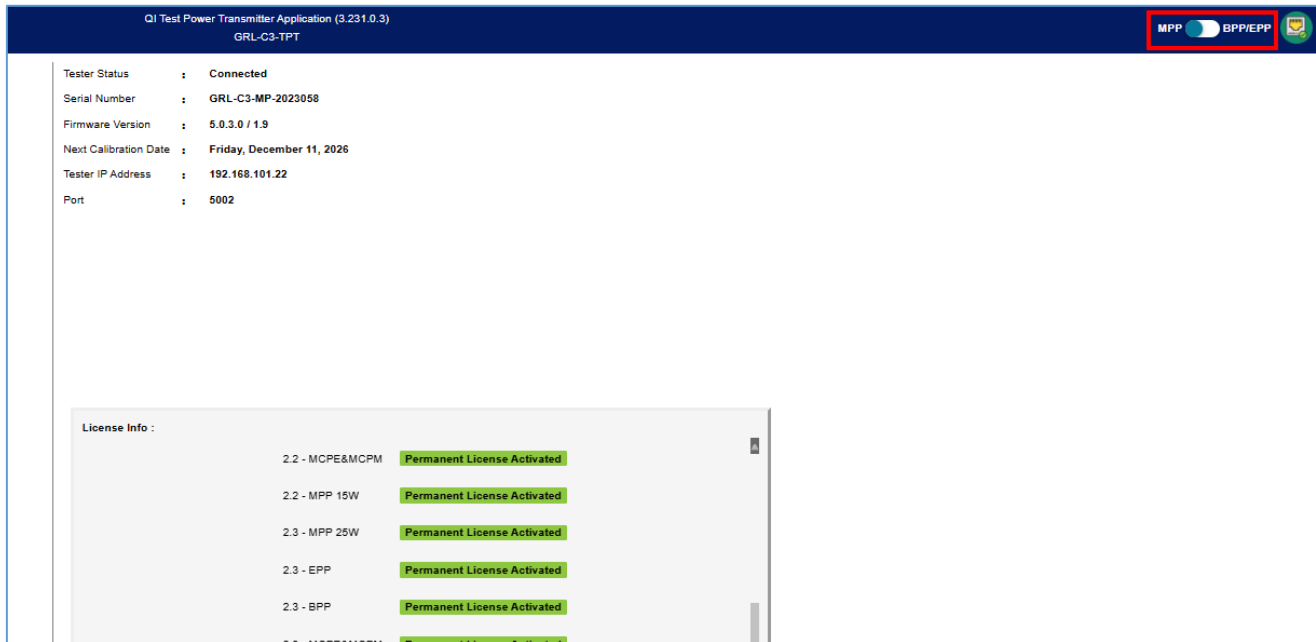

FIGURE 10.2: CLEAR BROWSER CACHE AND DISPLAY CORRECT SOFTWARE VERSION
5. Open the GRL-C3-TPT application and click on the “Refresh” icon above the browser menu and select **Empty Cache and Hard Reload** to clear the browser cache, and to display the correct version of software. See Figure 10.2 below.